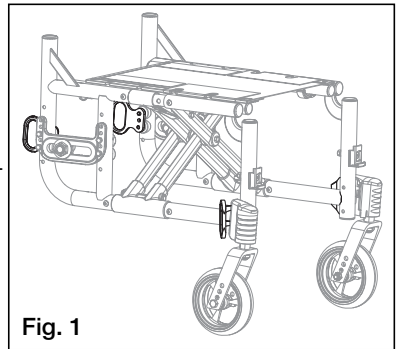

Fig. 1
- Attach wheelchair tie-downs to the four securement points (two front, two rear) on the Catalyst wheelchair with the Transit Option (Fig. 1) in accordance with the wheelchair tie-down manufacturer's instructions and RESNA WC-4:2012, Section 18 or ISO 10542-1:2012 - Part 1.